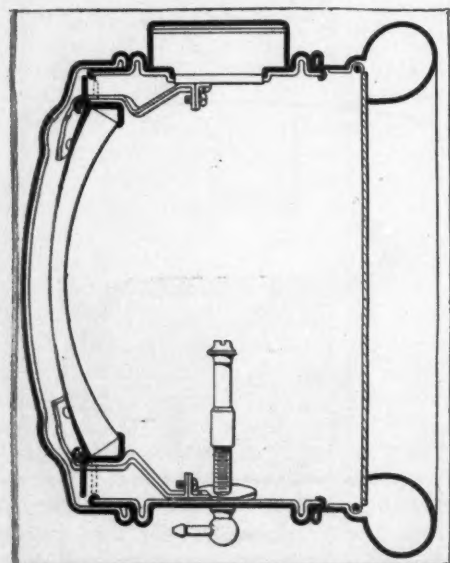

FIG. 17—THE MANHATTAN LAMP
**Manhattan Screw and Stamping Co.**—This concern is marketing a new design in headlights, which is a double-shell lamp in that the entire lamp is made of double metal, in which one shell supports the other. All couplings are on the inner part of the body, leaving a very clean and compact exterior. An illustration of this lamp, shown on another page, Fig. 17, shows the intricacy and delicacy with which the double scheme has been carried out, as well as the plain exterior of the lamp.